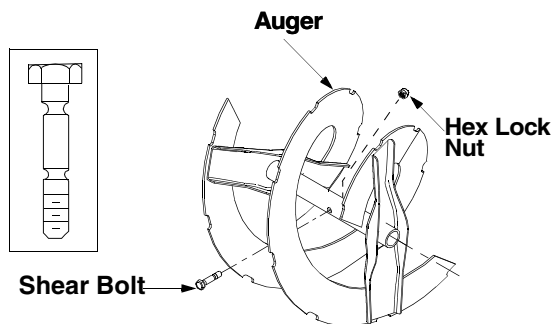

Figure 13
The augers are secured to the spiral shaft with two shear bolts and hex lock nuts. See Figure 13. If you hit a foreign object or ice jam, the snow thrower is so designed that the bolts will shear.
- If the augers do not turn, check to see if the bolts have sheared and replace if necessary. Two replacement shear bolts (shown in Figure 13 inset) and hex lock nuts have been provided with the snow thrower. Please note that lock nuts cannot be threaded onto a bolt by hand. This type of nut is used where vibration occurs. So you will have to use a set of wrenches to tighten these hardware. When replacing bolts, spray an oil lubricant into shaft before inserting new bolts.